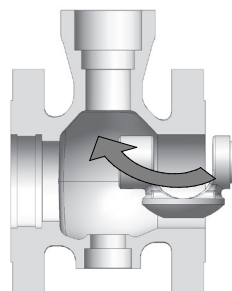

Figure 5b: Plug installation
- 13.15 Insert the plug in the body as shown in Figure 5b.
- ▲ NOTE:** The end post bearing (item 84) is pressed into the plug.